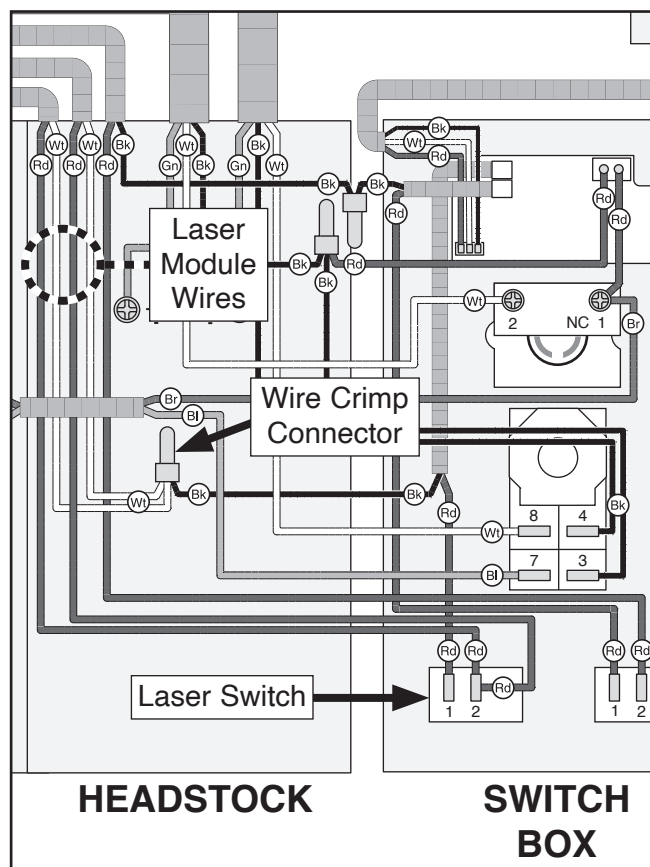

Figure 71. Laser module wiring.
7. Disconnect faulty laser module wires from wire crimp connector and laser switch (see **Figure 71**), then tie string to end of faulty laser module wires to aid in installation of new laser module.